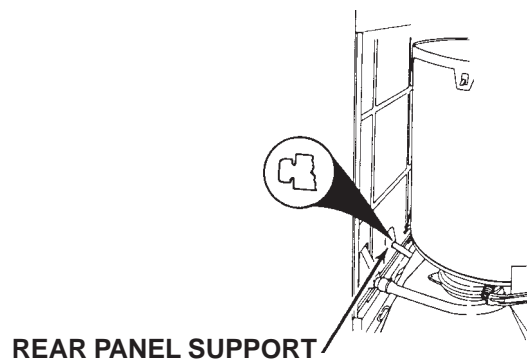

Fig. 3-11
5. The rear panel can be tilted back for additional access to components at rear of machine by twisting the rear panel support 90°, and then tilting the rear panel back. (Fig. 3-11)